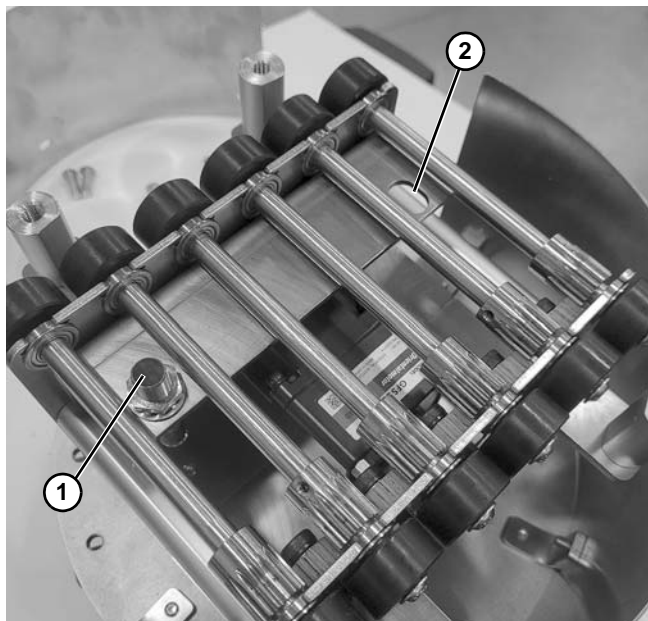

Figure 67
3. Install sensor(s) (**Figure 67, item 1**) (provided by others) into slots (**Figure 67, item 2**) in sensor bracket.